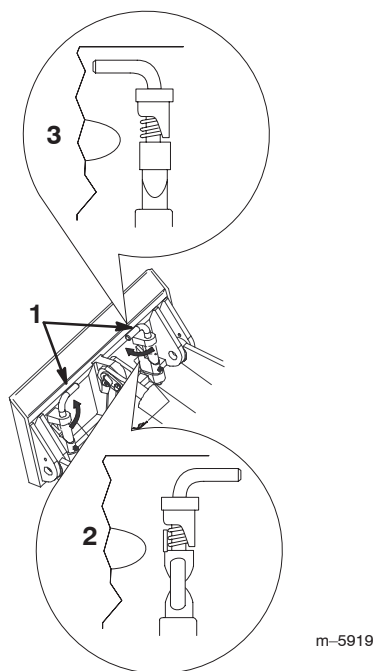

Figure 13
- Engage the quick attach pins, ensuring that they are fully seated in the mount plate (Fig. 13).